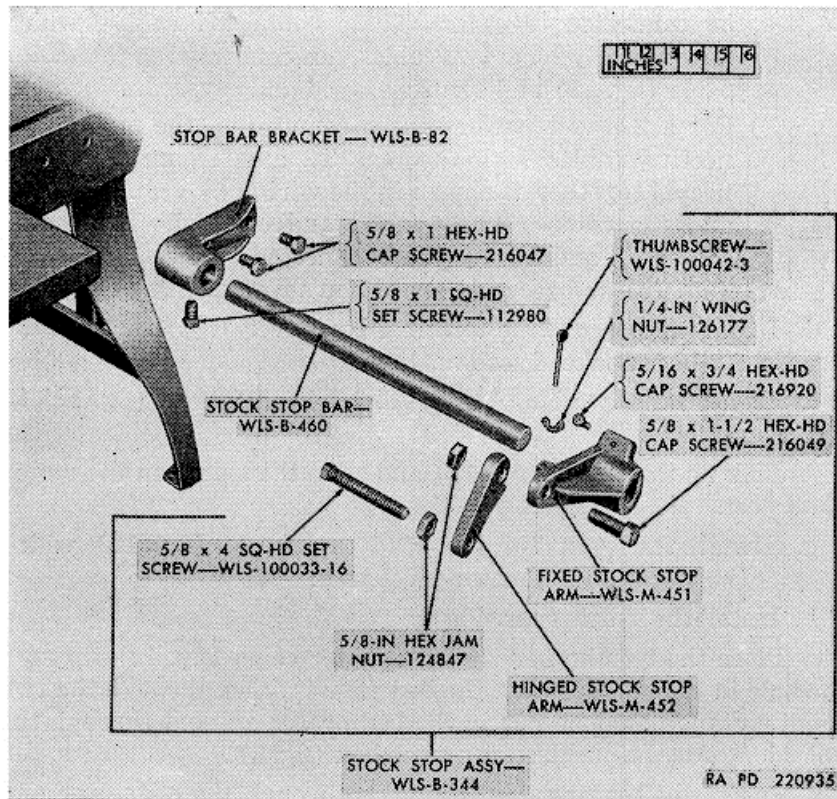
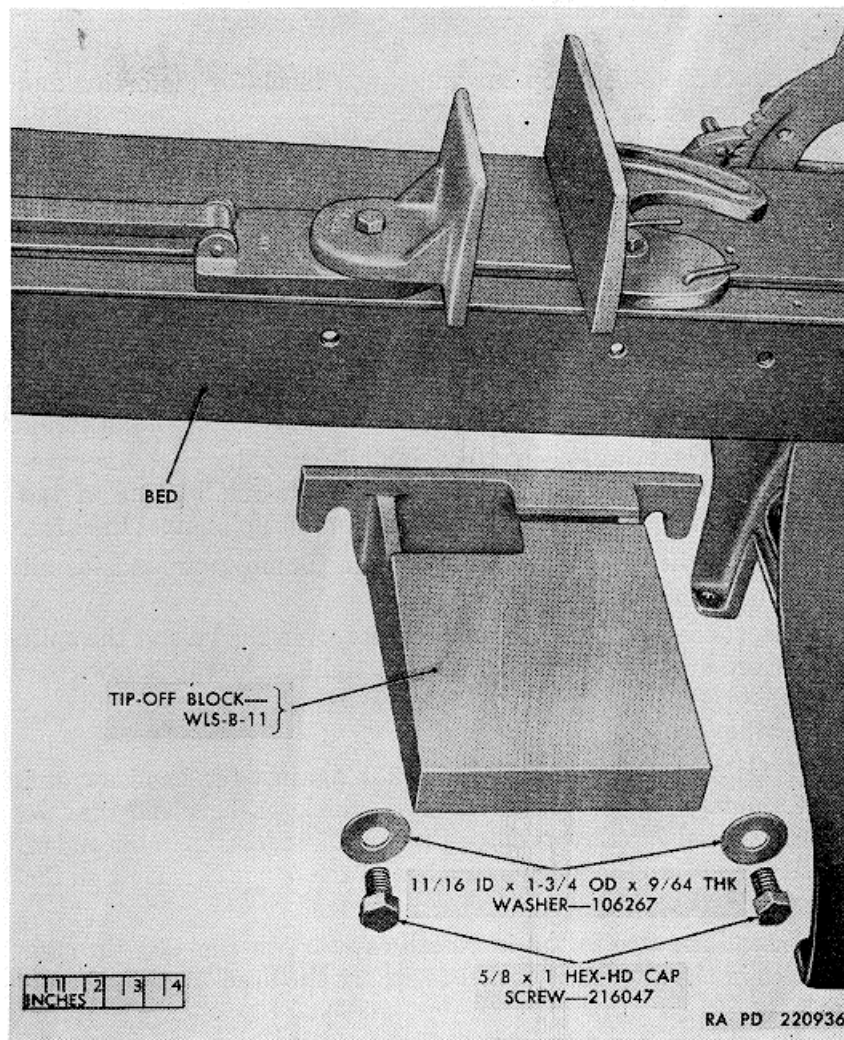

Figure 22. Stock stop assembly-exploded view.
Figure 23. Tip-off block-exploded view.
The stock stop assembly (fig. 22) is used when a successive number of work pieces are to be cut to the same length. The work pieces or material to be cut is supported on the tip-off block (fig. 23)
- a. Loosen the hex-head cap screw (fig. 22) at the split in the fixed stock stop arm and slide the arm off the stock stop bar.
- b. Remove the squarehead setscrew (fig. 22) in the lower side of the hub of the stop bar bracket and remove the stock stop bar.
- c. Remove the two hex-head cap screws (fig. 22) which secure the stop bar bracket to the bandsaw and remove the bracket.
- d. Hold the tip-off block (fig. 23) and remove the two hex-head cap screws and two washers which secure the tip-off block to the bandsaw and remove the block.
## 56. Disassembly (fig. 22)
#### **58. Assembly (fig. 22)**
- a. Position the tip-off block (fig. 23) against the bandsaw and install the two 1 1/8 ID x 1 3/4 OD x 9/64 thick washers and the two 5/8 x 1 hex-head cap screws through the half open slots in the end of the block and into the holes in the bed of the bandsaw. Tighten the cap screws securely.
- b. Install the two 5/8 x 1 hex-head cap screws (fig. 22) through the holes in the stop bar bracket to secure the bracket to the bandsaw.
- c. Slip the stock stop bar (fig. 22) into the stop bar bracket and install the 5/8 x 1 squarehead setscrew into the underside of the hub of the bracket, to hold the stock stop bar.
- d. Slide the assembled fixed stock stop arm (fig. 22) on the bar and tighten the 5/16 x 3/4 hex-head cap screw as instructed in paragraph 18.